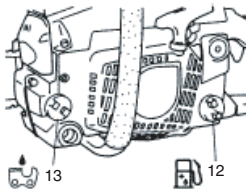

Fig. 8
⚠ WARNING (Fig. 8)
Chain oil (Fig. 8)
When pouring fuel (12) or chain oil (13) into the tank, place the unit with cap side up. (Fig. 8)